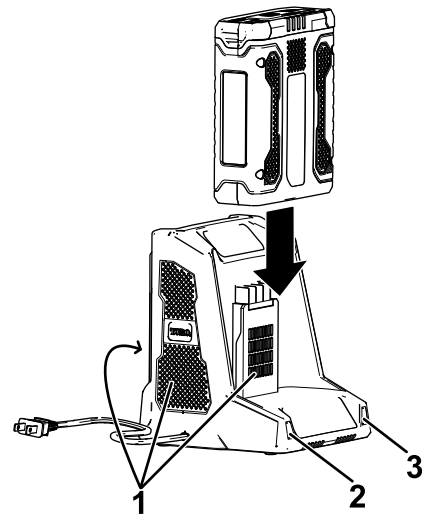

**Figure 11**
2. Line up the cavity in the battery pack (Figure 11) with the tongue on the charger.